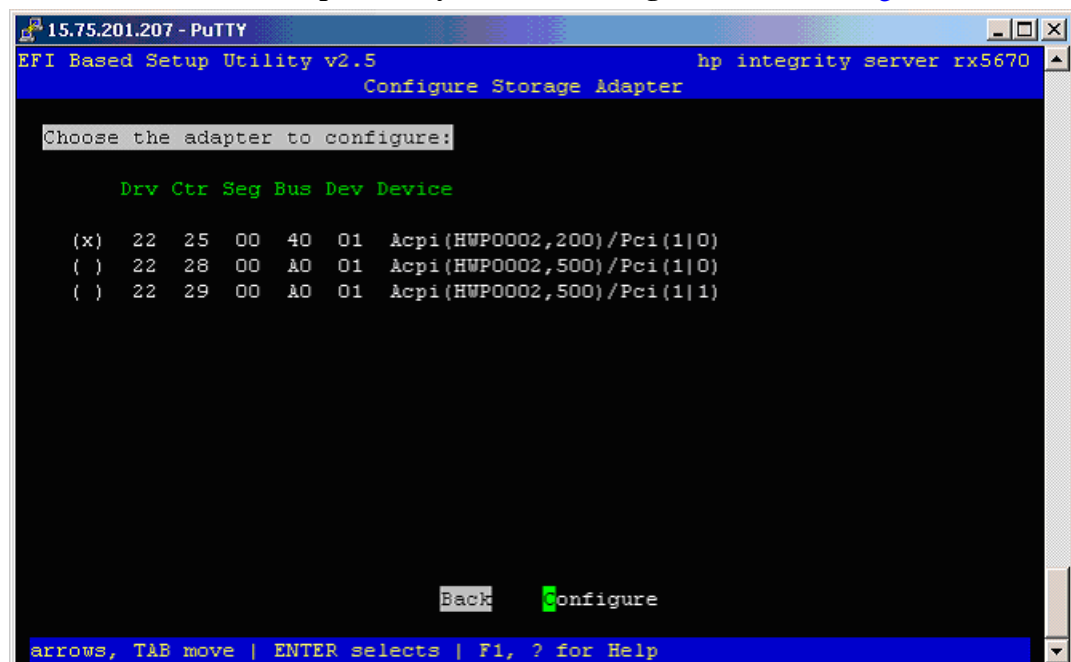

Figure 18: Choosing the adapter screen
2. Select **Choose the adapter that you wish to configure** as shown in Figure 18.